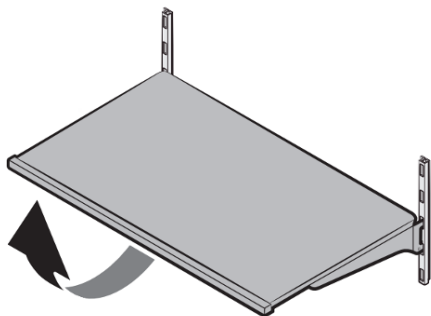

Figure 1
- Hold the front of the shelf, and then gently lift up and slide out (see *Figure 1*).